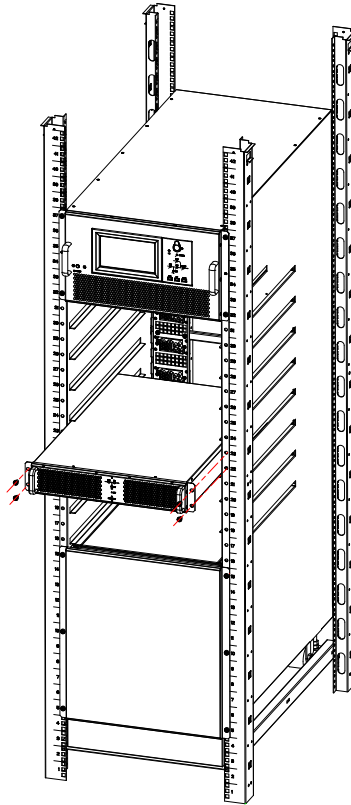

Figure 3-11 Insert module to cabinet
6. Insert module to cabinet, and lock the module panel screws, as Figure 3-11 shows ;